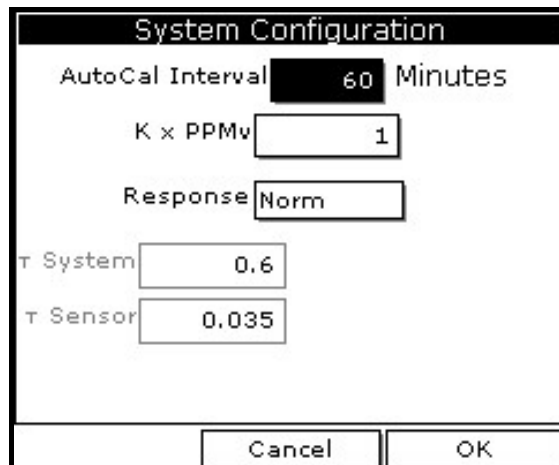

Figure 22: System Configuration Window
3. Use the arrow key to scroll to System and press **[ENTER]**. A screen similar to Figure 22 appears.